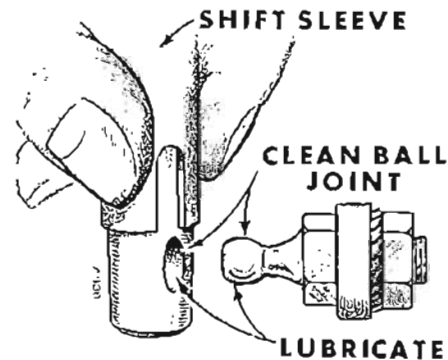

Figure A-2. Lubrication Of Governor Linkage
(2) Governor Linkage. Lubricate the linkage at the carburetor and ball joint ends with powdered graphite (preferably) or a light sewing machine oil (fig. A-2).